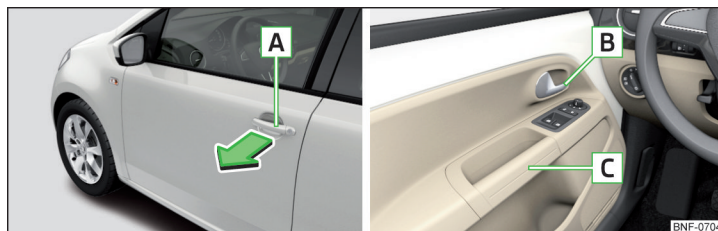

Fig. 29 Door handle/door opening lever
- To **open from the outside**, unlock the vehicle and pull in the direction of arrow » Fig. 29 the door handle **A**.